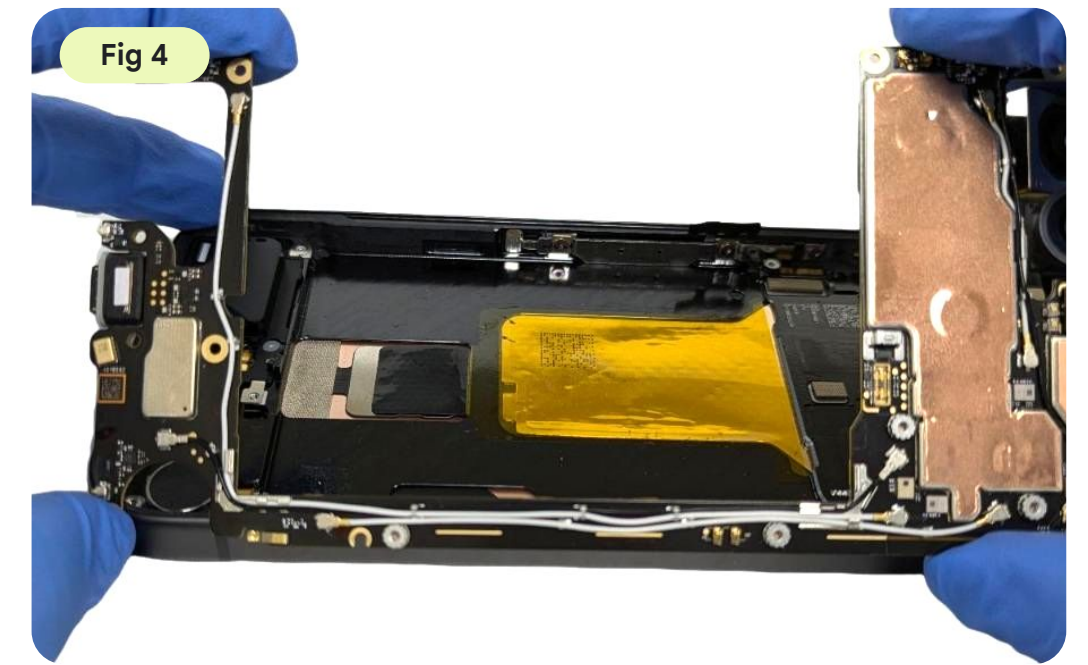

Fig 4
- Hold the enclosure in place when you continue to separate the logic board from it as shown in Fig 4.